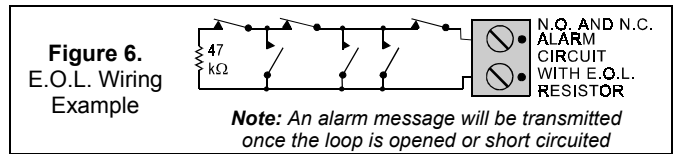

Figure 6.
- If the auxiliary input is defined as an E.O.L. type (**SW2** set to **ON**), Normally Closed (N.C.) as well as Normally Open (N.O.) sensor contacts can be used. A 47kΩ E.O.L. resistor must be wired at the far end of the zone loop, as in Figure 6.